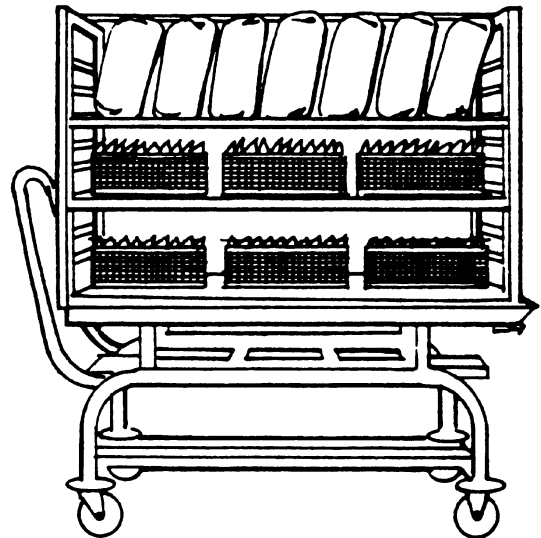

Figure 25. PLACE PACKAGED/WRAPPED ITEMS ON EDGE.
- 2) Place paper/plastic pouch standing on edge with plastic side of one facing the paper side of the one next to it (Figure 25).